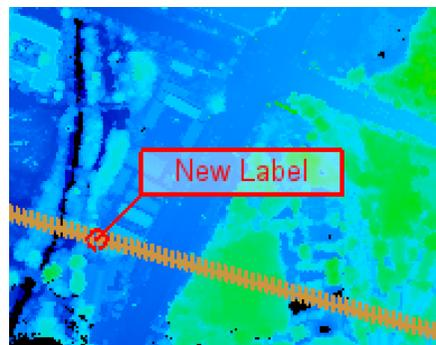

Figure 3-119 Point labeling
- (3) Click <Add Annotation> to complete the selection of annotation points (Figure 3-119).